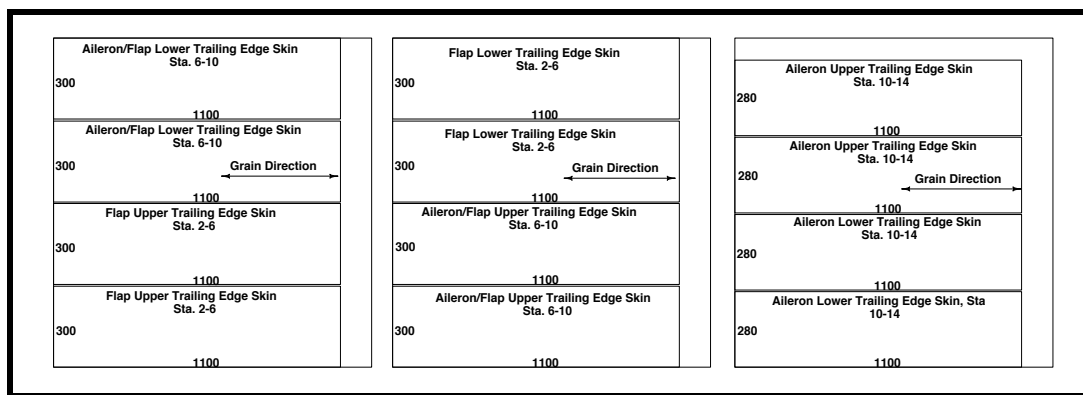

Figure 3
- ❑ Use three 48"x48" or larger sheets of 1mm birch plywood and cut in accordance with Figure 3.